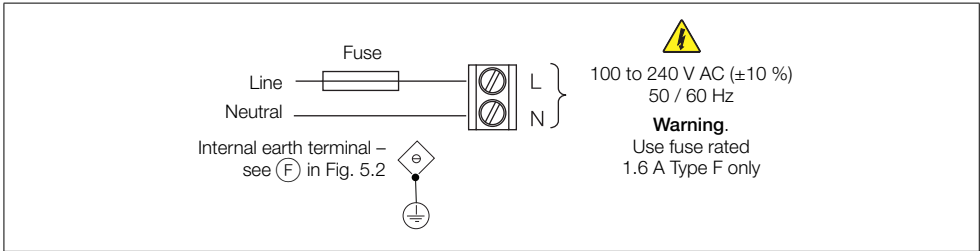

Fig. 5.1 AC Power Supply Connections
- The transmitter is not fitted with a switch therefore a disconnecting device such as a switch or circuit breaker conforming to local safety standards must be fitted to the final installation. It must be fitted in close proximity to the transmitter within easy reach of the operator and must be marked clearly as the disconnection device for the transmitter – see Fig. 5.1, page 20.